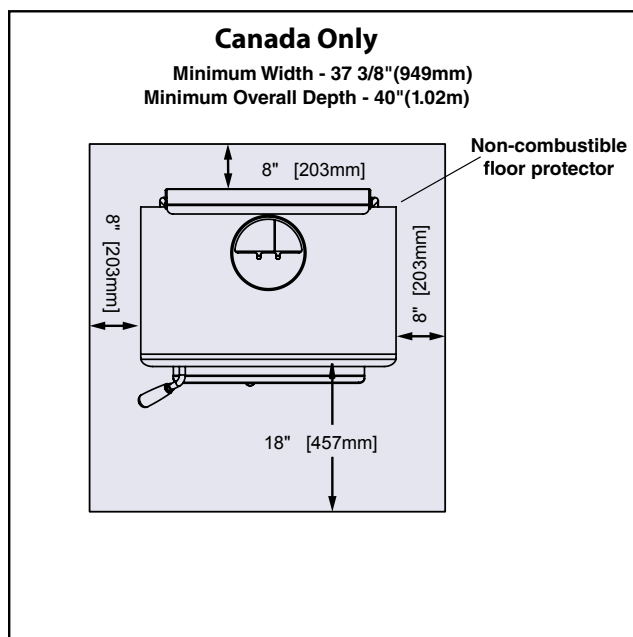
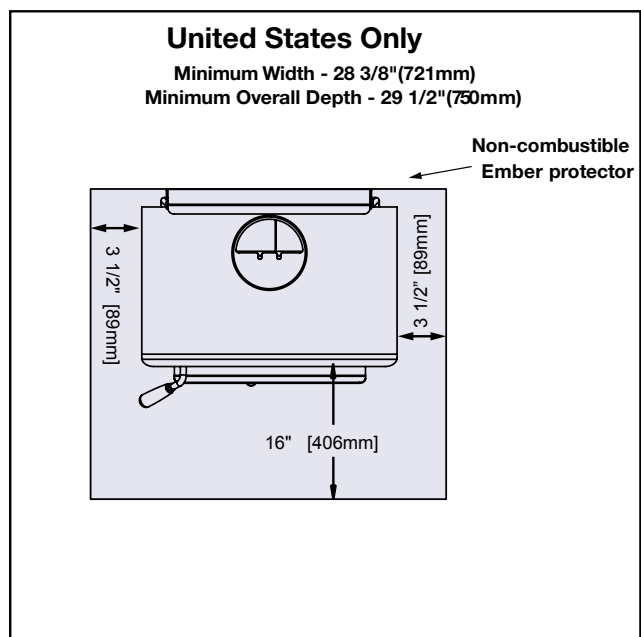

Figure 3: TN10 - CAN Floor protector.
Figure 4: TN10 - US Floor protector.
This heater may be installed using a single-wall connector (smoke pipe) as per local and National fire and Installation codes. See **Single wall Connector** in Figure 3. Clearances may be reduced with various heat shielding or insulating materials. Consult national fire codes and authorities for approval ( U.S. -NFPA 211 or CAN. - CSA B365)
In Canada: 18" (457 mm) from the loading door on the firing side and 8" (203 mm) from the sides. See Figure 3, below.
In USA: 16" (406 mm) to the front of the firebox and 8" (203 mm) from the sides of the fuel loading door opening. See Figure 4, below. This protection is also required under the chimney connector and 2" (51 mm) beyond each side.
1. Position stove and floor protection (with hole for combustion air if required) in accordance with the clearances as stated on the label and in Figure 2., and Figure 3 or Figure 4.